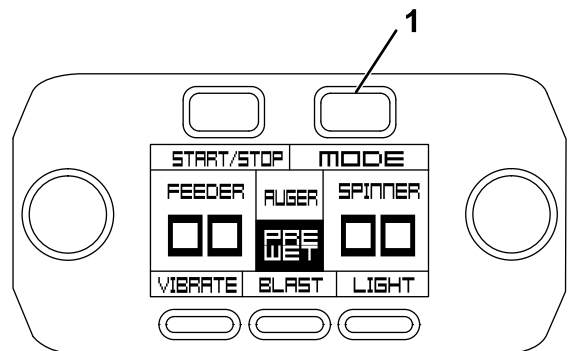

Figure 49
- To deactivate the pre-wet system, press the Mode button on the controller (Figure 49).